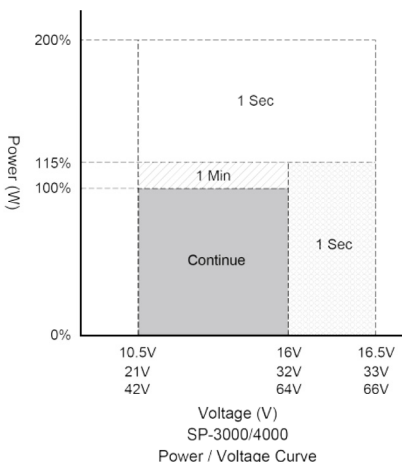
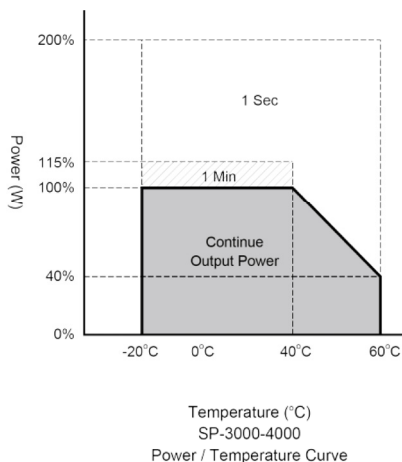

Figure 3. SP-3000/4000
Figure 4. SP-3000/4000
① Voltage range : Please refer to Figure 3
② Normal load Condition : Vin =12.5V/25V/50V, Vo=200/220/230/240 VAC 80% Full load (PF=1.0)
③ Operating temperature : Please refer to Figure 4
④ **Warning** : This is a class A product. In a domestic environment this product may cause radio interference in which case the user may be required to take adequate measures.
② Normal load Condition : Vin =12.5V/25V/50V, Vo=100/110/115/120 VAC 80% Full load (PF=1.0)
- ① Voltage range : Please refer to Figure 3
- ② Normal load Condition : Vin =25V/50V, Vo=200/220/230/240 VAC 80% Full load (PF=1.0)
- ③ Operating temperature : Please refer to Figure 4
- ④ **Warning** : This is a class A product. In a domestic environment this product may cause radio interference in which case the user may be required to take adequate measures.